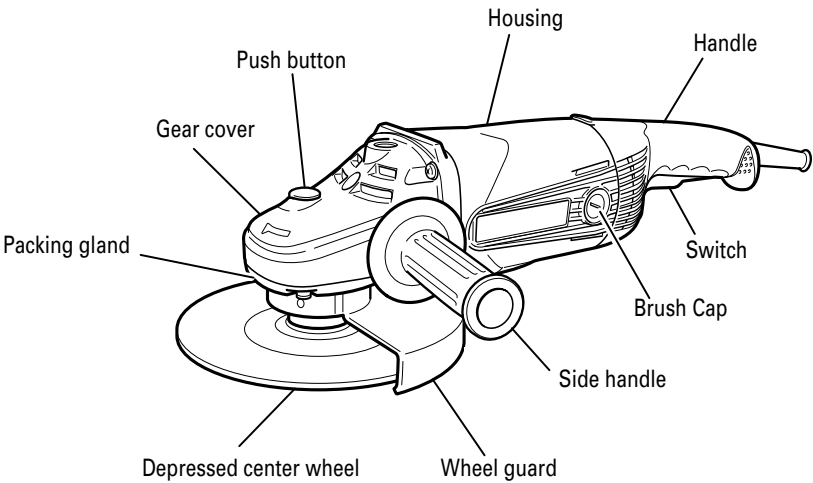

Fig. 1
1. Hold the grinder firmly by its handle and side handle (Fig. 1)